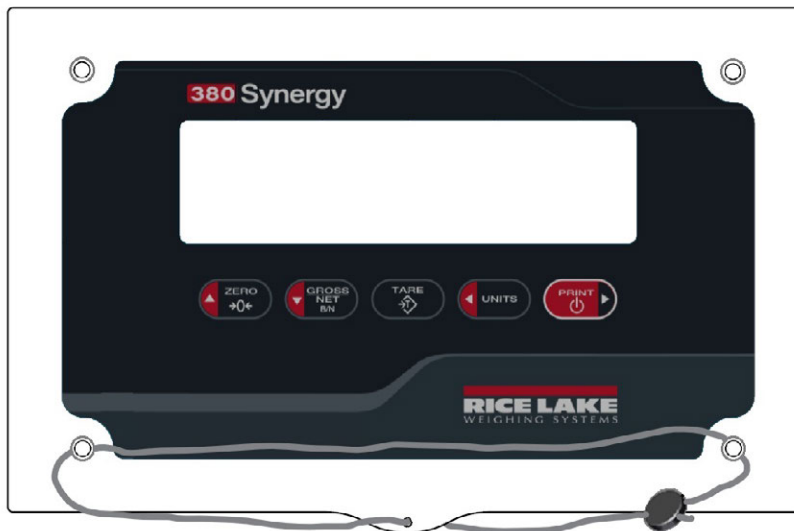

Figure 4-2. Sealing the 380 Indicator – No Access
3. Navigate the lead sealing wire through the lower two fillister head screws on the front plate and the hole at the bottom center of the front plate, as shown in Figure 4-2.